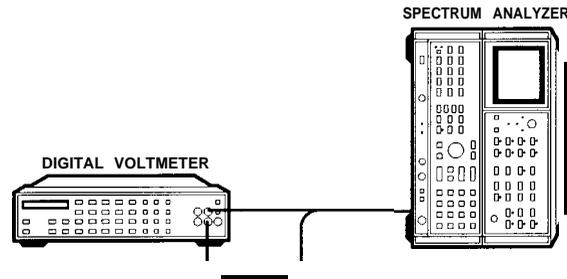

Figure 3-78. 50 MHz Voltage-Tuned Oscillator Adjustments Setup
1. Position Instrument on right side as shown in Figure 3-78 and remove bottom cover. Remove All 50 MHz Voltage-Tuned Oscillator and place on extenders.
21. Adjust All SHAPING ATTN A11R42 for VTO indication of 22.000 MHz ± 0.005 MHz. See Figure 3-78 for location of adjustment.
23. Adjust All SHAPING OFFSET A11R17 for VTO frequency indication of 21.250 MHz ± 0.005 MHz. See Figure 3-78 for location of adjustment.